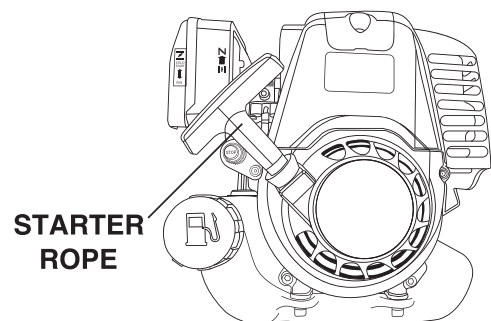

Figure 3
5.1.4 Pull the starter rope (Figure 3) lightly until you feel resistance, then pull briskly in the direction of the arrow. Return the starter rope gently.